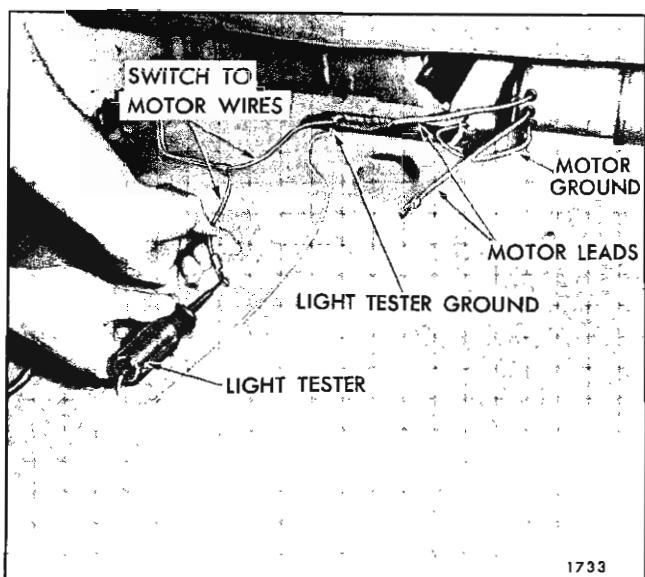

Fig. 1-I-68—Checking Motor Wiring
a. Check connection of motor ground wire to body metal. (See Fig. 1I60).